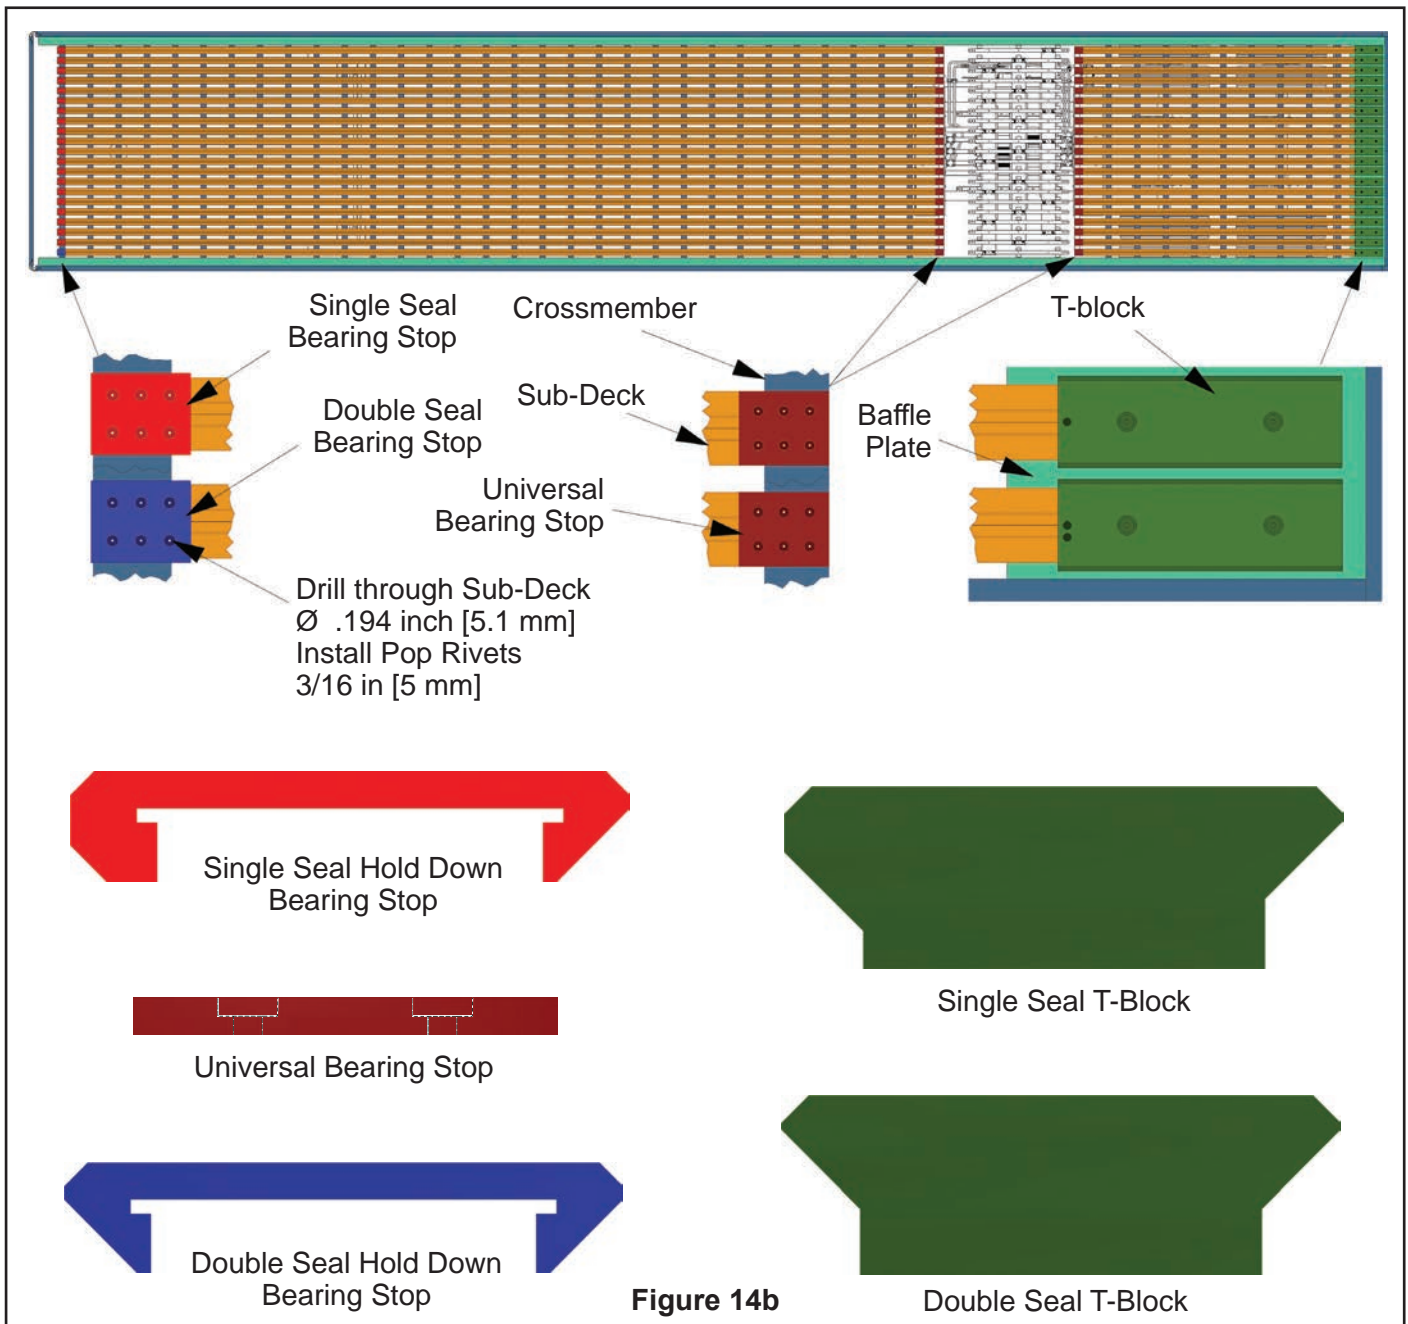

Figure 14b
Bearing Stops keep bearings in place and are installed with pop rivets. Install bearing stops onto the ends of the sub-deck in the **appropriate orientation** and flush with the ends of the sub-decks. Drill (6) holes through sub-deck, using holes in bearing stops as a drill jig. Install (6) rivets per bearing stop. (3) Bearing Stops per slat are pre-drilled and supplied by KEITH Mfg. with order. (See Figure 14b)
T-Blocks keep bearings in place and are bolted on to the baffle plate at the rear of the trailer. Install T-blocks in the **appropriate orientation** and flush with the ends of the sub-decks. Drill (2) holes through baffle plate, using holes in T-blocks as a drill jig. Install (2) bolts & nylock nuts per T-block. (1) T-block per slat is supplied by KEITH Mfg. with order. (See Figure 14b)